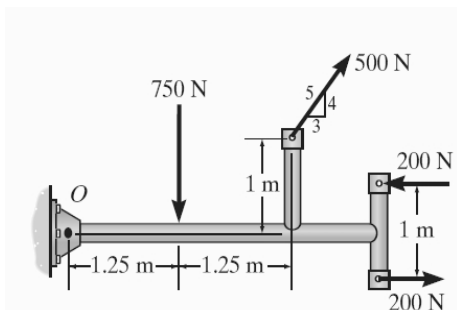

Figure 1-3
3. Replace the force and couple moment system acting on the beam in **Figure 1-3** by an equivalent resultant force, and find where its line of action intersects the beam, measure from point O.